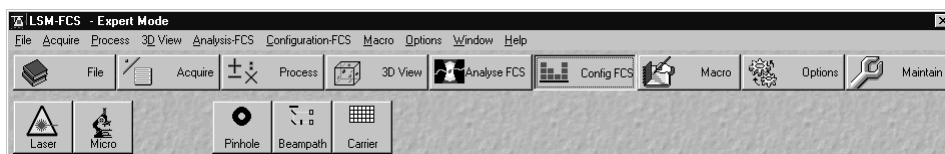
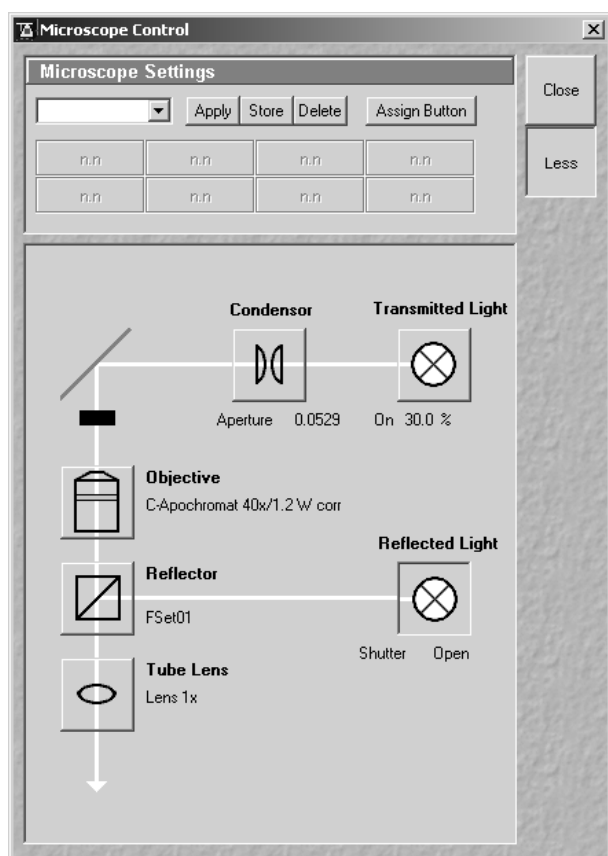

Fig. 4-23 Main menu with activated Config FCS subordinate toolbar
Fig. 4-24 Axiovert Control window
- The first step is to set up the microscope for FCS measurements. This is done in the **Axiovert Control** window (Fig. 4-24) or manually at the microscope stand. This window is reached by clicking the **Micro** button in the **Config FCS** subordinate toolbar of the **Main** menu (Fig. 4-23).
- Click on the **Laser** button in the **Config FCS** subordinate toolbar of the **Main** menu (Fig. 4-23).